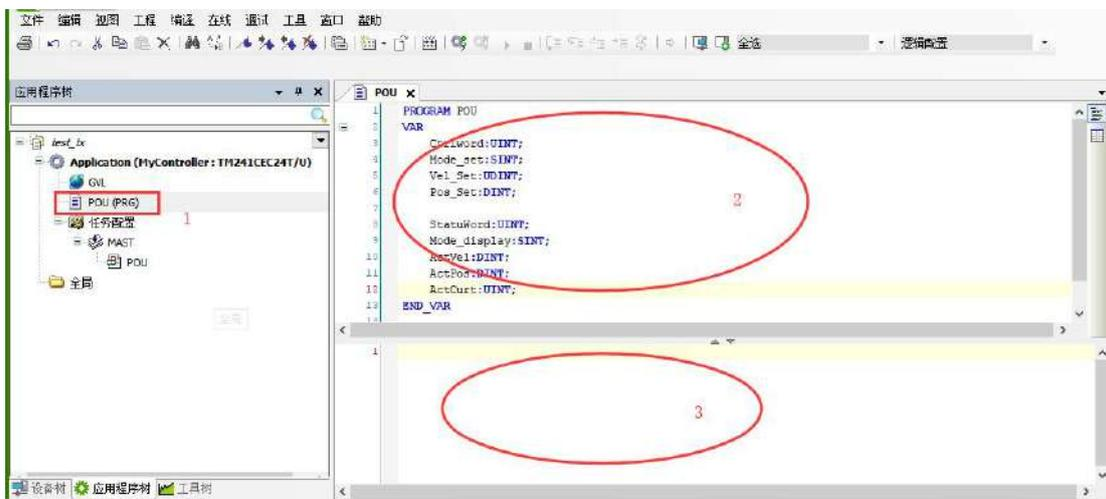

Figure 7-20 Write POU program
- b. Double click "POU", define the variable in area 2, write the logic program in 3 area, click "Compile", confirm that there is no error, and proceed to the next step, as shown in Figure 7-20.